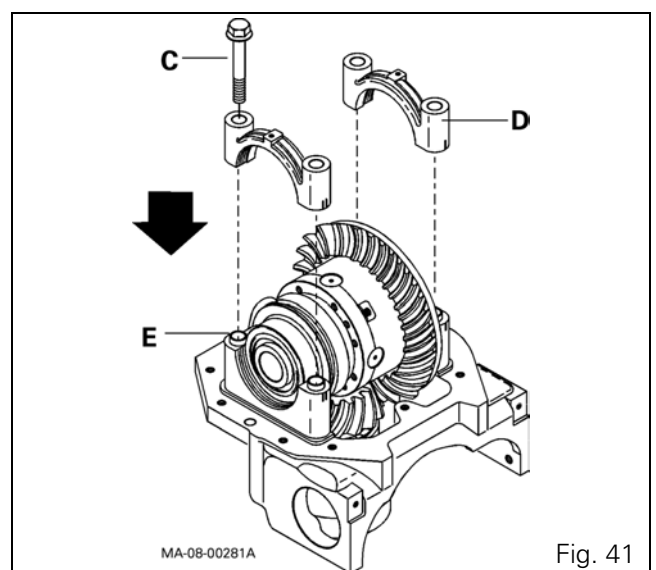

Fig. 41
55. Ensure that all rings E are in position in their seatings and place both half-bearings D on their seats, following the marks made during disassembly. Lock the two half-bearings with their screws C (Fig. 41).